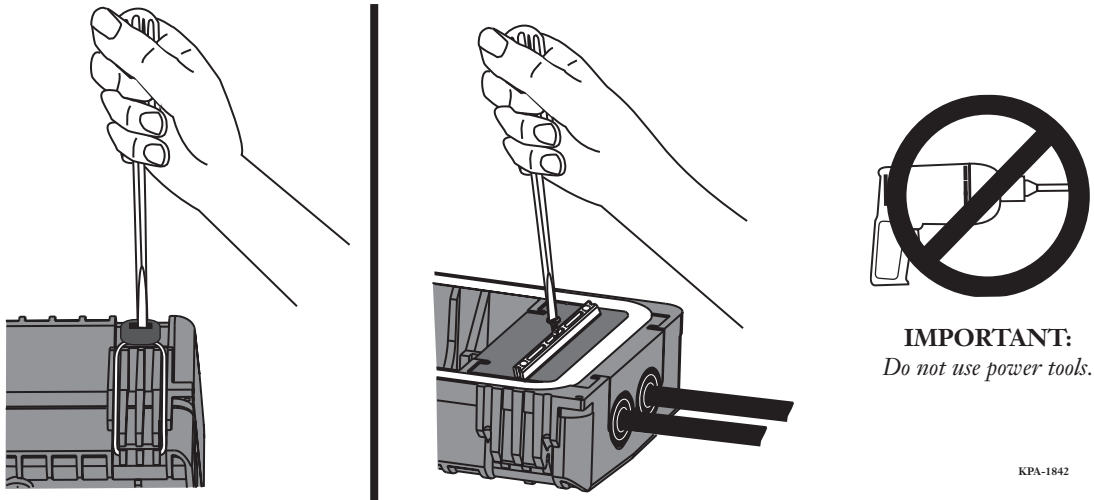

Figure 60
- Step 2:** Pry open as shown in Figure 60.
- Step 3:** Insert one of the bolts just removed into the center hole on the sealing wedge. Tighten screw slowly to force wedge out (Figure 60).